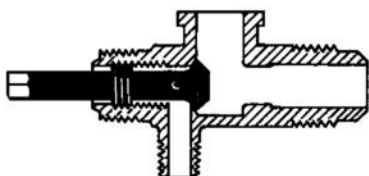

Fig. 8
5. Connect hoses of manifold gauge set (refer to Fig. 8). Connect hose from compound gauge to suction service valve (designation on cylinder head "Suction").
8. Switch on vacuum pump and evacuate system until low pressure gauge of manifold gauge set indicates approximately 28" mercury (HG).